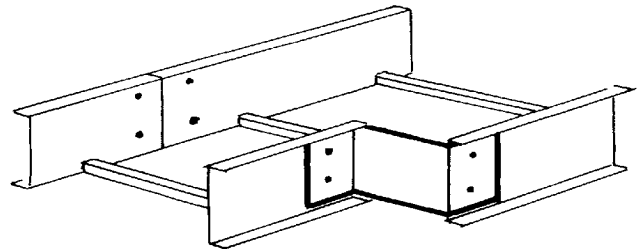

Figure 4.17
4.3.6 Offset Reducing Splice Plates (See Figure 4.17.)